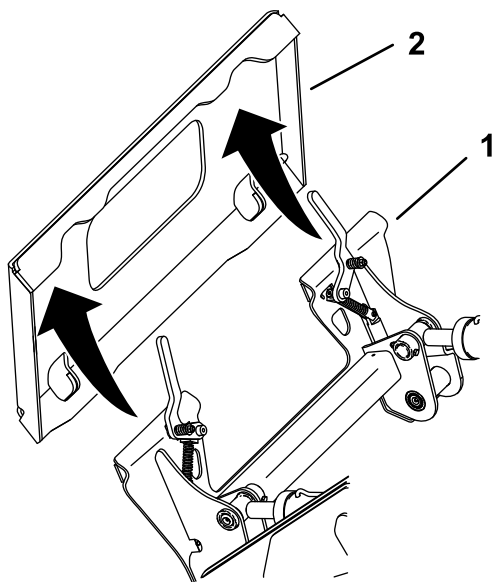

Figure 55
5. Position the mount plate into the upper lip of the attachment receiver plate (Figure 55).